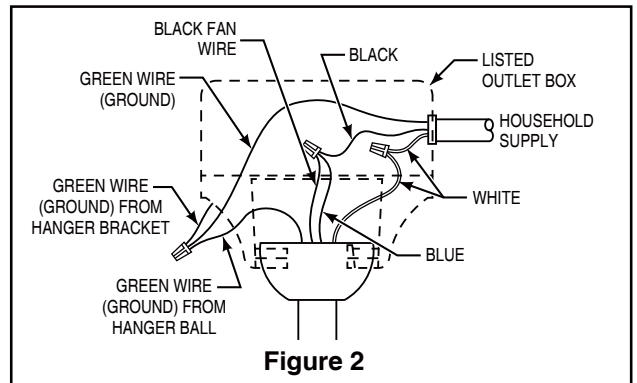

Figure 2
1. Connect the green grounding lead from the hanger ball and the green grounding lead from the hanger bracket to the supply grounding conductor (this may be a bare wire or wire with green colored insulation). Securely connect wires with wire connectors supplied. (Figure 2)
2. Securely connect the white fan motor wire to the white supply (neutral) wire using wire connector supplied. Securely connect the black fan motor wire and blue wire to the black supply wire using wire connector supplied. (Figure 2)